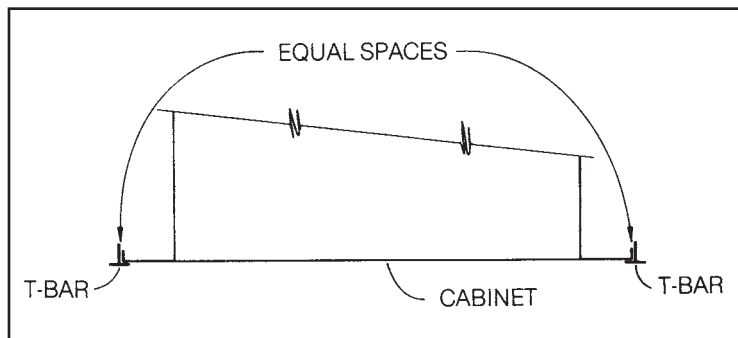

FIGURE 9
– While continuing to support the cabinet, position the flange edges of the cabinet against the T-bars (see Figure 9).